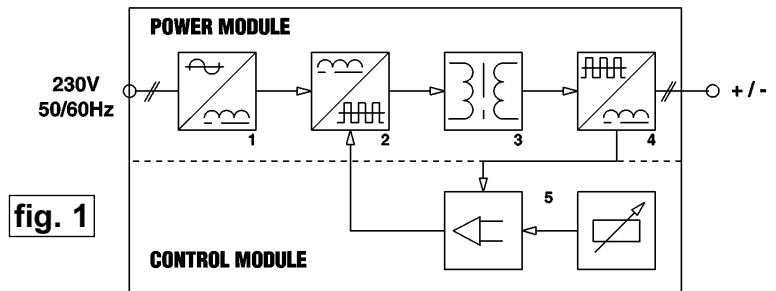

fig. 1
2.3. CIRCUIT SYSTEM DESCRIPTION Refer to fig. 1